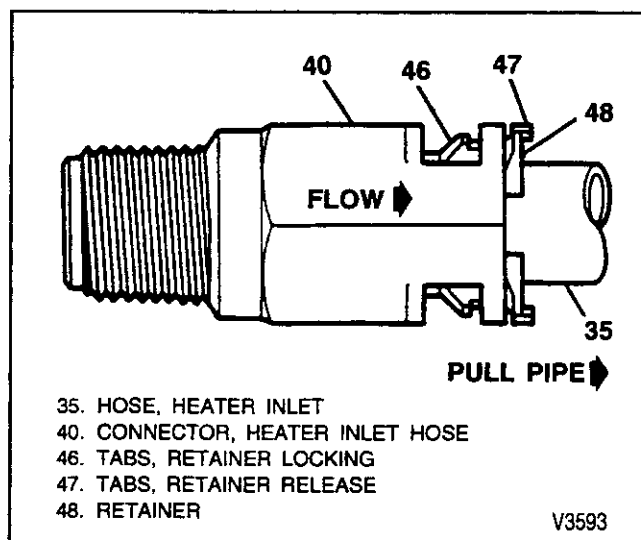

Figure 18—Quick Connect Heater Inlet Connector
3. Inlet hose mounting screw (42).
4. Inlet hose clamp (36) at heater core.
- Loosen the clamp (36) enough to slide the clamp away from the fitting on the inlet hose (35).
5. Inlet hose (35) from heater core.
6. Push inlet hose (35) into connector (40) and insert J 38723 or equivalent into connector to release locking tabs (46) (figure 18).
7. Pull retainer (48) and hose (35) from heater inlet connector (40) (figure 18).